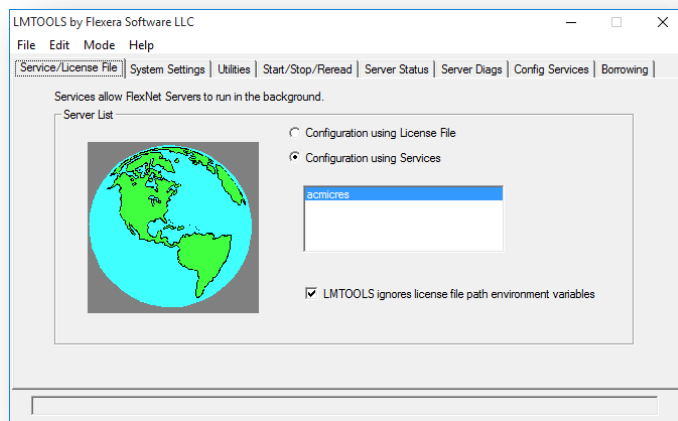

Figure 3.2 The basic task bar of lmtools
After double clicking on lmtools.exe, the lmtools window will appear, see Figure 3.2. Choose the option 'Configuration using Services' in 'Service/License File' tab. It is recommended to enable the option for ignoring license files environment variable. Some functionalities of lmtool like stopping a server use a broadcast mechanism. This can lead to unintended termination of other FlexLM license managers in the same network.
- **Service / License File** (see Figure 3.2)